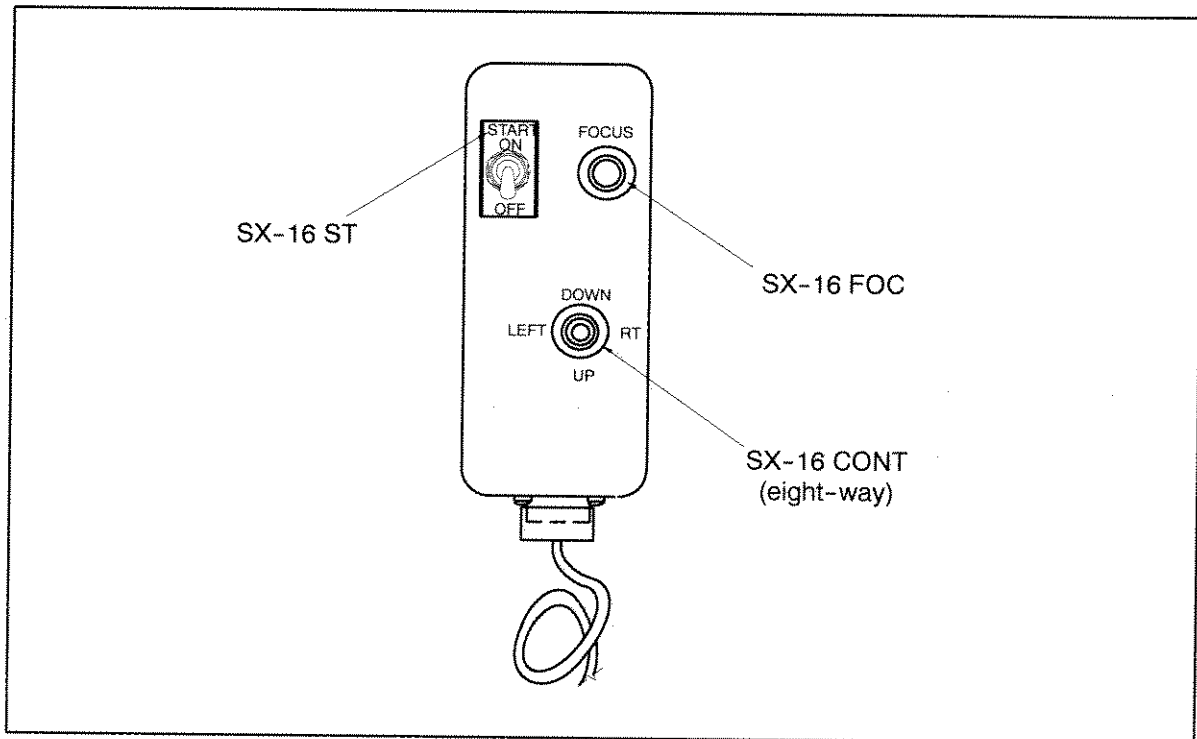
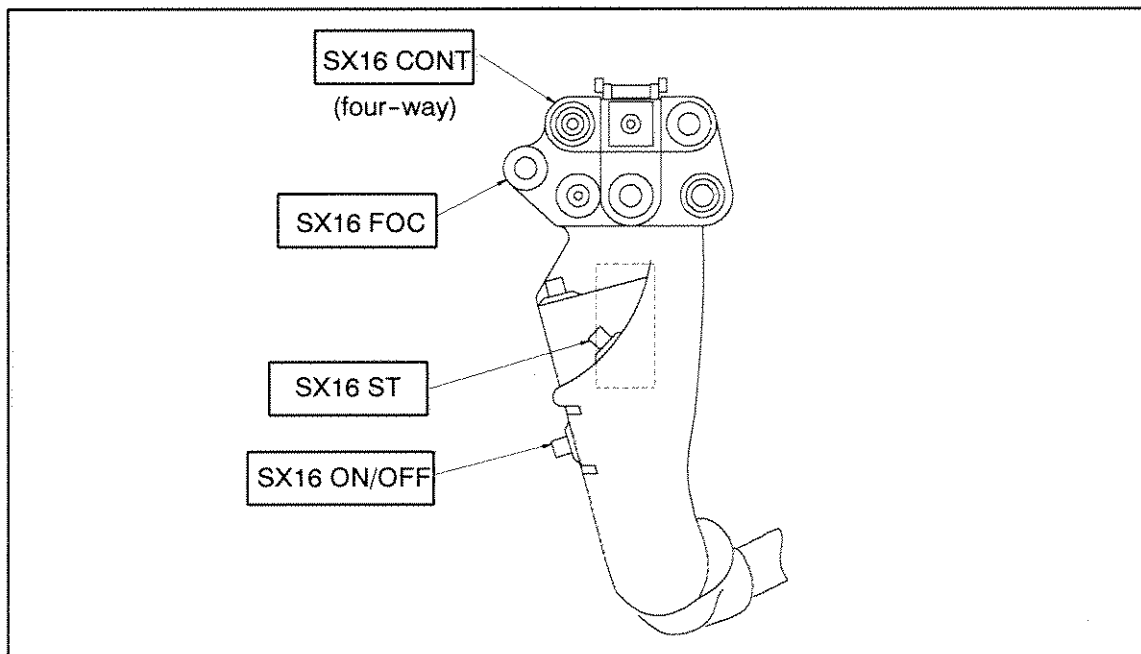

Figure 2 Operator Hand Control
Figure 3 Pilot's Cyclic Control
(a) Operator Hand Controller - (refer to Figure 2)
(b) Pilot's Cyclic Control – (refer to Figure 3)
(1) Switching System ON
- (a) Operator Hand Control - (refer to Figure 2)
- (b) Pilot's Cyclic Control - (refer to Figure 3)
(2) Focus and Position
(a) Operator Hand Control - (refer to Figure 2)
(b) Pilot's Cyclic Control - (refer to Figure 3)